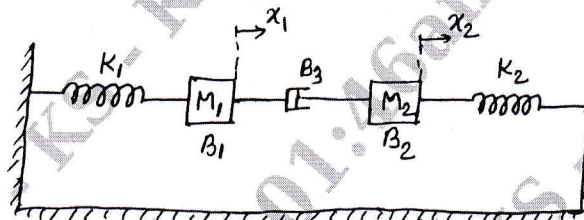

Fig. Q3(a)
- 3 a. Write the equilibrium equations for the mechanical system shown in Fig.Q3(a), hence obtain the F – I system.